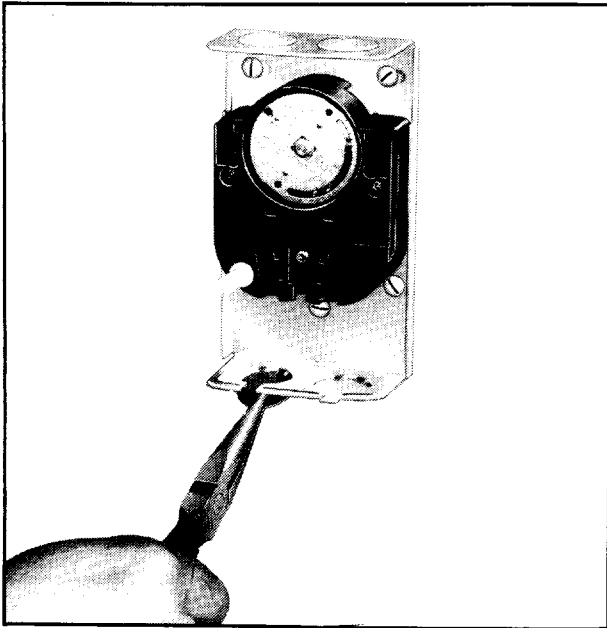

FIG. 8—REMOVING SLOTTED KNOCKOUTS FROM SUPER TRADELINE MODELS.
1. To remove the slotted knockout(s), use a needlenose pliers as shown in Fig. 8 and pull straight down.